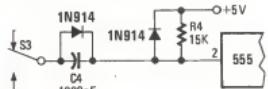

FIG. 4—SINGLE-TRIGGER (time-out) circuit.
the-hour chime. The circuit shown in Fig. 4 causes the controller to trigger once and *only once* for each closing of switch S3 no matter how long it is closed.
is closed and another when it is opened; (2) a single trigger on closing and another available as soon as the first time-out is completed; and (3) a single trigger on closing following by a "dead-time" of from several seconds to several minutes during which the switch will not re-trigger. The values given in Fig. 4 put my prototype in case (2) above, but much depends upon the quality of C4 and how much leakage it has.